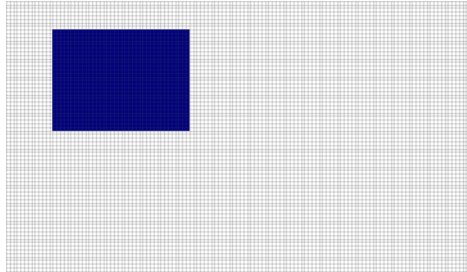

Figure 142 Add Browser
2. Click on the schematic window and expand out the required area for the Web Browser as shown in Figure 142